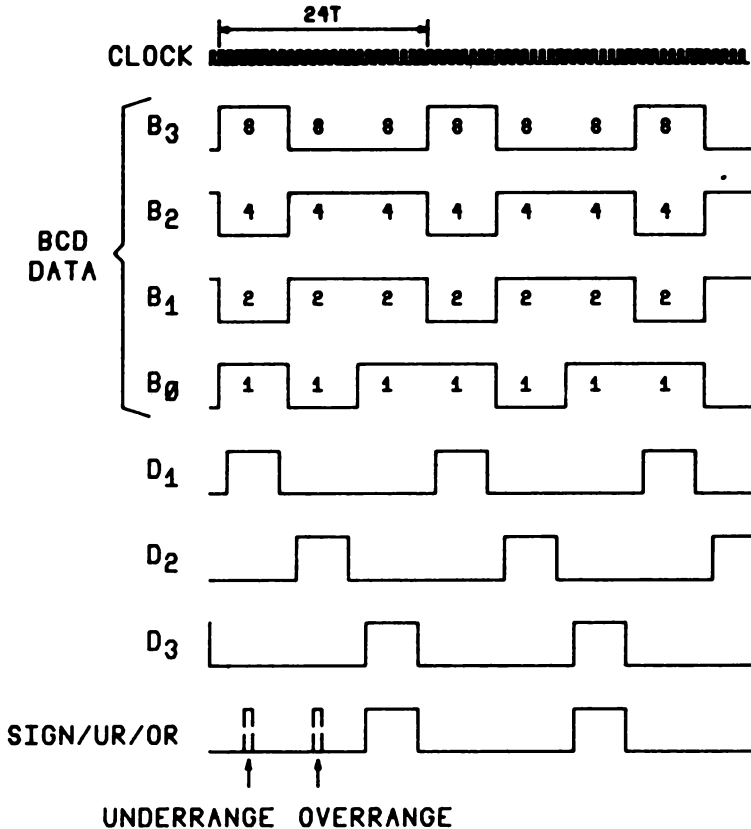

Figure 4. Data Output Format
The BCD data stored in the latches is continuously scanned, every 24 clock periods (8 clock times per digit). Sign information appears at the SIGN/UR/OR pin coincident with the D₃ strobe. Interdigit blanking of the Digit Strokes is achieved by taking on full clock period from both the leading and trailing edges of the strobes. Thus the digit is on 6 clock periods while the BCD data for that digit appears for the full eight clock periods. Figure 4 shows the Data Output Timing.
6. Range Signal Decoding Autoranging. The ranging signals (overrange and underrange) are time multiplexed on the SIGN/OR output. De multiplexing consists of logically ANDING this output with either the D_1 or D_2 Digit Strobe output (see Figure 4). Thus: